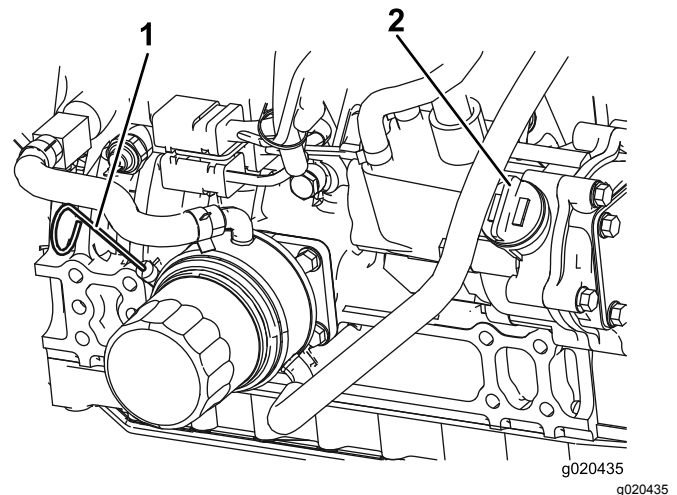

Figure 58
Note: The oil level should be in the safe range (Figure 58).
4. If the oil is below the safe range, remove the fill cap (Figure 58) and add oil until the level reaches the Full mark. **Do not overfill.**